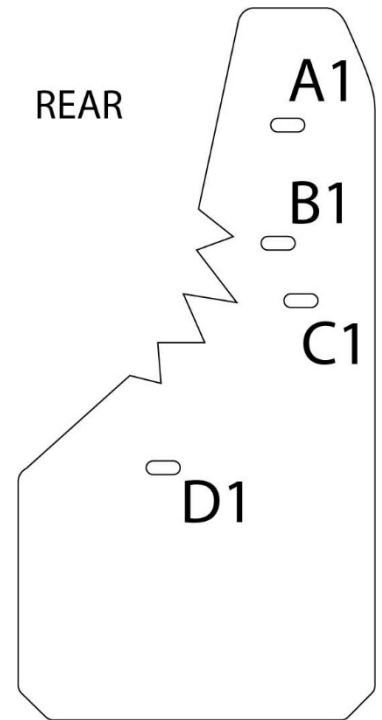

FIGURE 1 (FRONT)
1. Remove Factory screws on fender well lip at Locations A & B (save for re-use). (FIGURE 1)